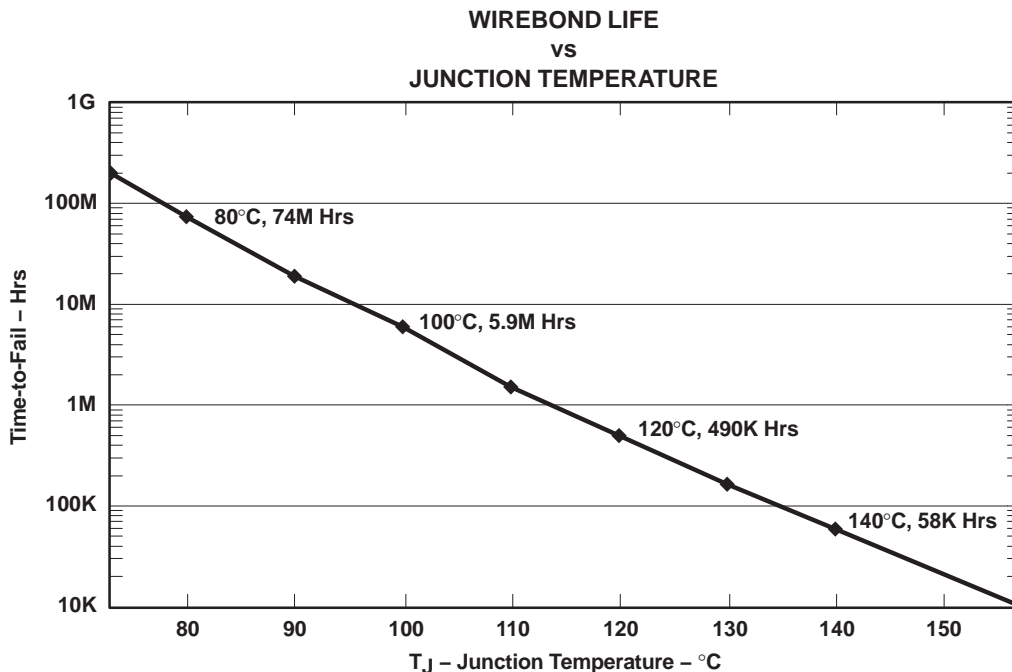

Figure 1. EME-G600 Estimated Wirebond Life
(1) The absolute maximum temperature under any condition is limited by the constraints of the silicon process. Stresses above these ratings may cause permanent damage. Exposure to absolute maximum conditions for extended periods may degrade device reliability. These are stress ratings only and functional operation of the device at these or any other conditions beyond those specified is not implied.
(2) Long-term high-temperature storage and/or extended use at maximum recommended operating conditions may result in a reduction of overall device life. See Figure 1 for additional information on thermal derating.